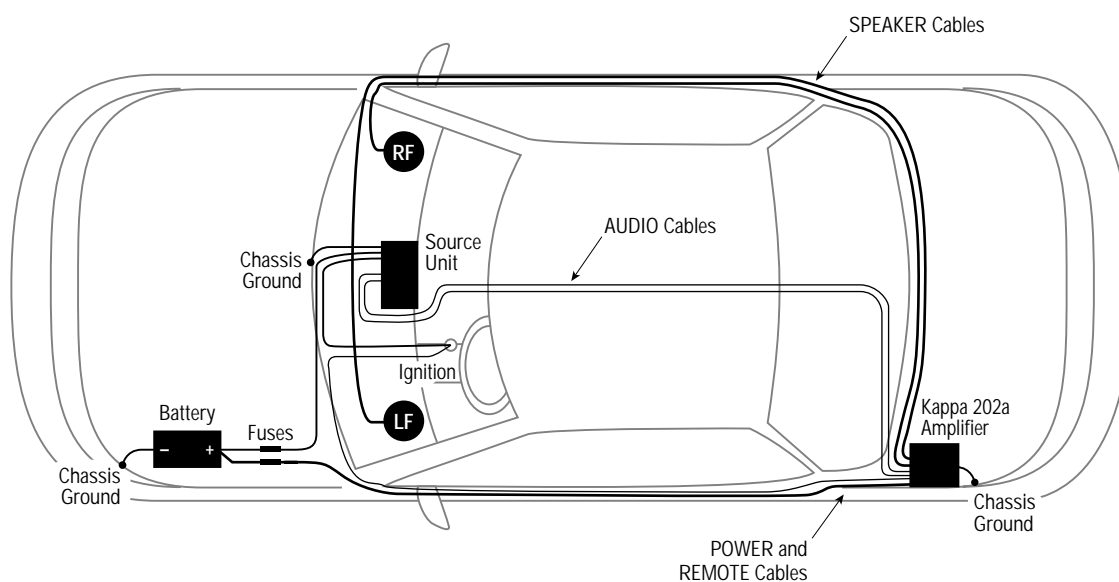

Figure 6. To minimize possible noise pickup, use this suggested cable routing scheme to plan your amplifier installation.
- When routing cables, keep input signal cables away from power cables and output speaker wires, as shown in Figure 6 (below).